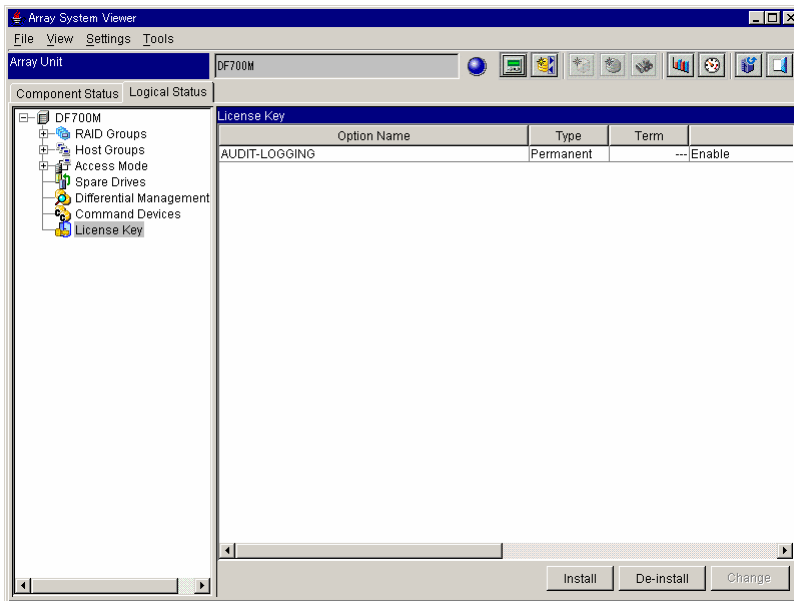

Figure 4.6 Audit Logging Installed
10. The License Key panel will display Audit Logging as installed (see Figure 4.6).
2. The Array System Viewer displays. Click the **Logical Status** tab, and then click the **License Key** icon to display the License Key window. Once you have installed Audit Logging, it will display in the **Option Name** column (refer to Figure 4.6).
7. The License Key window is updated and then displayed. (Refer to Figure 4.6)